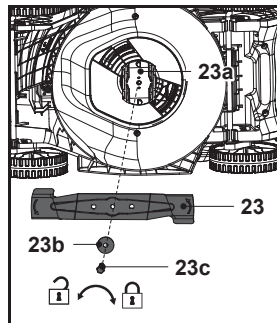

Fig. 20
- Replace the cutting blade (23) with a new one of the same type. Check the status of blade holder (23a) onto the spindle firstly, then attach the cutting blade (23) to the blade holder (23a) by aligning it with the patterns on the blade holder (23a), fix the assembly with the flat washer (23b) and mounting bolt (23c), and tighten by hand.
- Hold the cutting blade (23) firmly with a heavy-duty gloved hand and/or a wood stick, tighten the mounting bolt (23c) clockwise with 25 Nm min, 35 Nm max to ensure safe operation of your machine (Fig. 20).